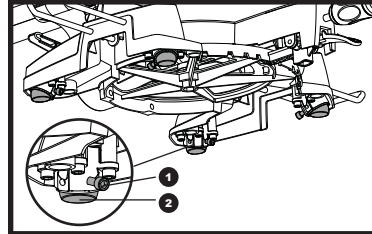

Fig 7
To fit the legs remove the feet by releasing the socket headed fixing screws (1) sufficiently to allow the plastic feet (2) to be prised gently from their sockets (see fig. 7).